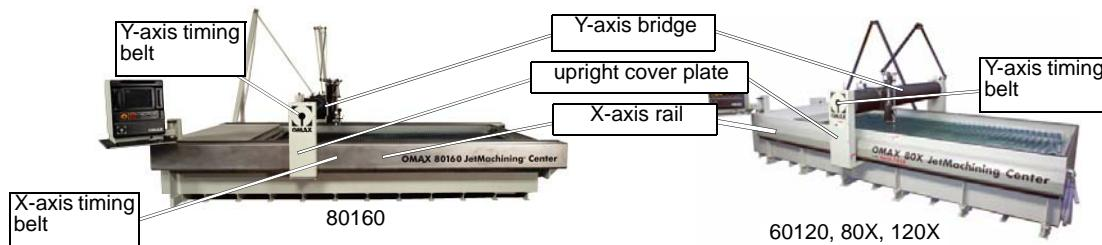
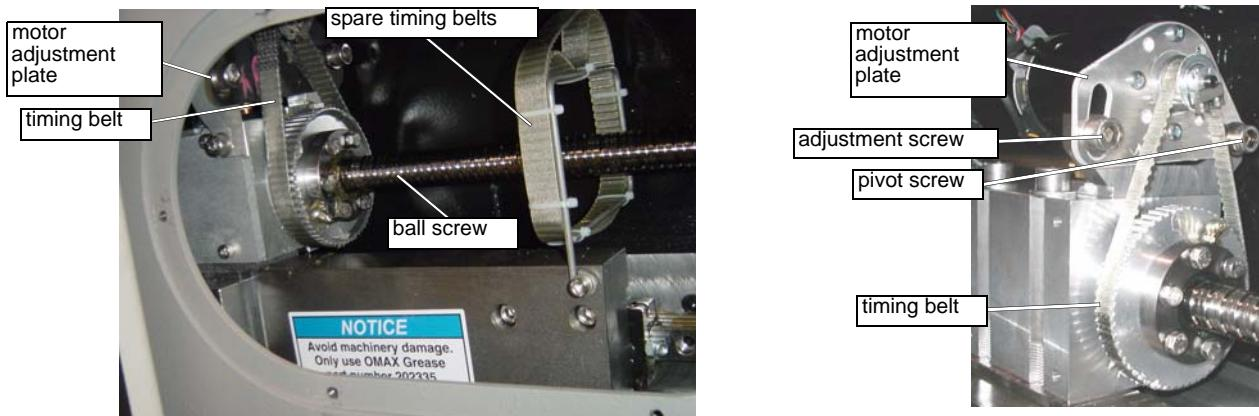

Figure 6-9: Timing Belt Locations for Bridge-style Tables
Figure 6-11: View of 80160 Timing Belt With Access Plate Removed
The 80160 uses the standard OMAX servo motor/ball screw design for its X-axis movement (Figure 6-11). Two ball screws are used for X-axis movement, one on each side of the table (Figure 6-9).
7. Remove the six screws securing the access covers to the frame. Set the all screws and both access cover places aside, exposing the ball screws and timing belts (Figure 6-11):